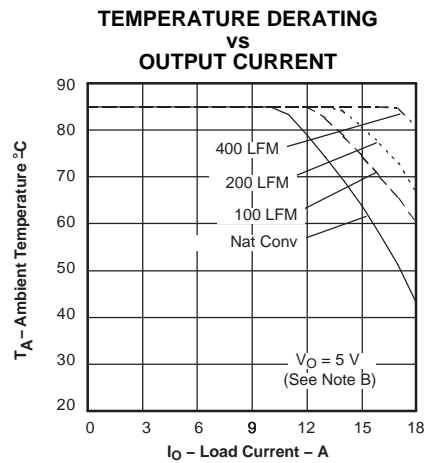
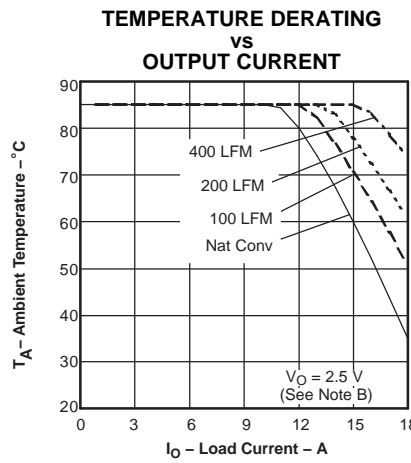
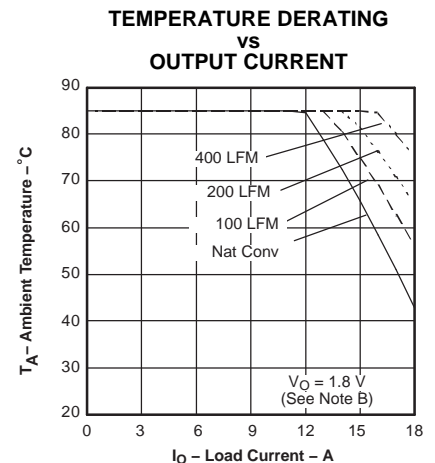

Figure 4.
Figure 5.
Figure 6.
- (2) Note B: The temperature derating curves represent the conditions at which internal components are at or below the manufacturer's maximum operating temperatures. Derating limits apply to modules soldered directly to a 4 inch x 4 inch double-sided PCB with 1oz. copper. For surface mount products (AS and AZ suffix), multiple vias (plated through holes) are required to add thermal paths around the power pins. Please refer to the mechanical specification for more information. Applies to Figure 4, Figure 5 and Figure 6.